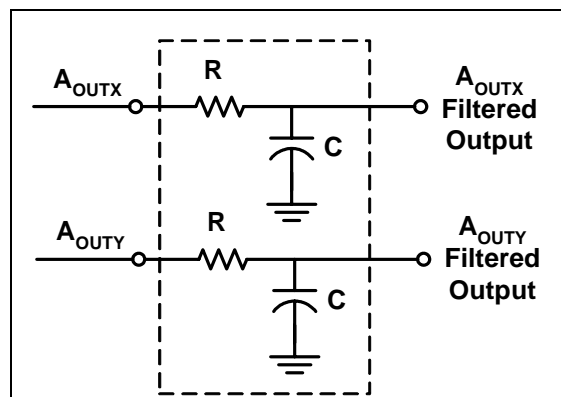

Figure 4: Low Pass Filter
**Low Pass Filter:** An external low pass filter is useful in low frequency applications such as tilt or inclination. The low pass filter limits the noise floor and improves the resolution of the accelerometer. **When designing with MEMSIC ratiometric output accelerometers (MXRxxxx series), it is highly recommended that an external, 20 Hz low pass filter be used to eliminate internally generated periodic noise that is coupled to the output of the accelerometer.** The low pass filter shown in Figure 4 has a -3dB breakpoint given by the equation:  $f = \frac{1}{2\pi RC}$ . For the 200 Hz ratiometric output device filter,  $C=0.2\mu F$  and  $R=39k\Omega, \pm 5\%, 1/8W$ .